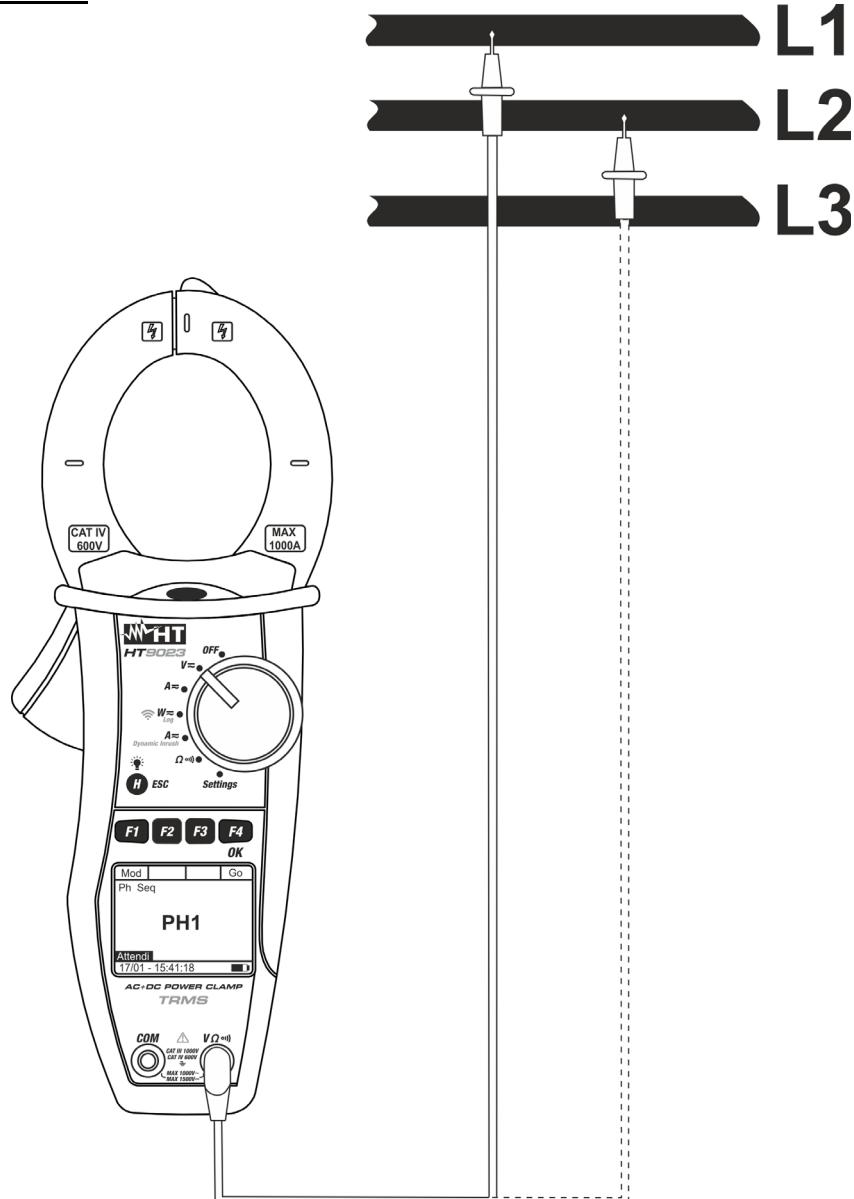

Fig. 7: Verification of phase sequence
4. Connect red cable to input lead **VΩ** and black cable to input lead **COM** then position the leads respectively to the L1 phase and the ground reference PE of the circuit under test (see Fig. 7).
7. The message “**PH2**“ is shown and the instrument waits for the detection of L2 phase. Connect the test lead to phase L2 cable (see Fig. 7)